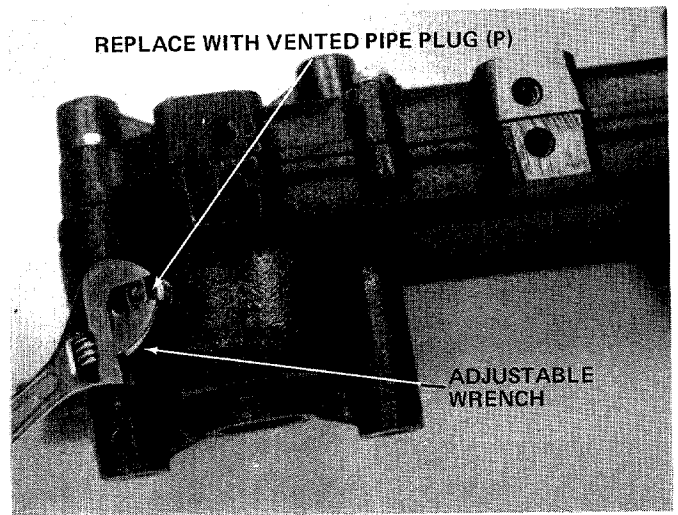

FIGURE 2
3. With an adjustable wrench remove the pipe plug and replace with vented pipe plug (P) provided in hardware parts pack. See figure 2.
4. Assemble the right and left hand tine assemblies to gear box, with four spring pins (E). A hammer is required. See note below before continuing.
2. Place the gear box so that the pipe plug is up, as shown in figure 2.